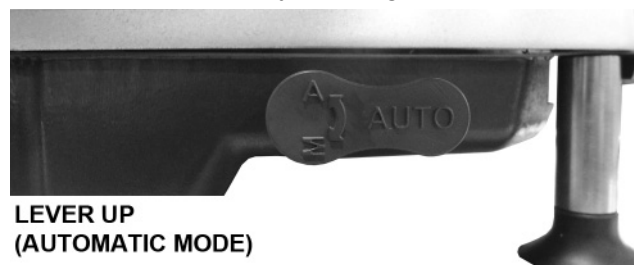

Fig. 6
- Lift the Lever (Fig. 6) to the up position for automatic mode.